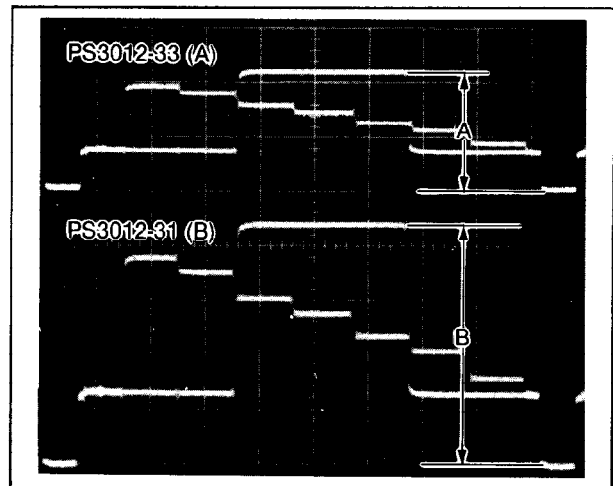

Fig. E23
4. Adjust VR3306 so that the level of pin 31(B) of the level of pin 33(A) of Sub Y/C pack C.B.A. (PS3012) to  $50 \pm 1.5\%$  as shown in Fig.E23.